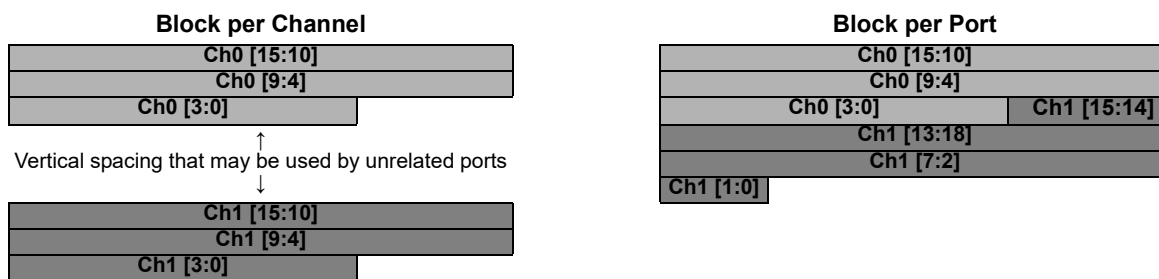

Figure 4-26. Block Packing Mode
- **Payload data block** refers to blocks of data within a frame, as controlled by **BLOCK_PACKING_MODE** (see p. 129) and shown in Fig. 4-26: